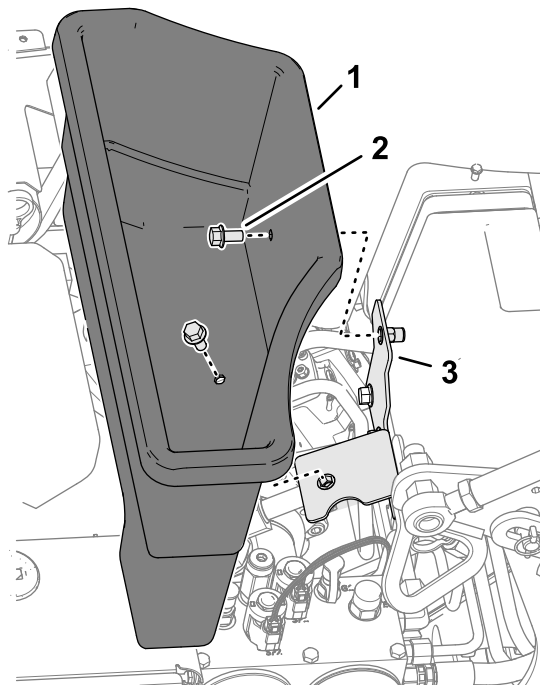

Figure 115
3. Remove the 2 flange head bolts that secure the storage bin to the bin bracket (Figure 115).